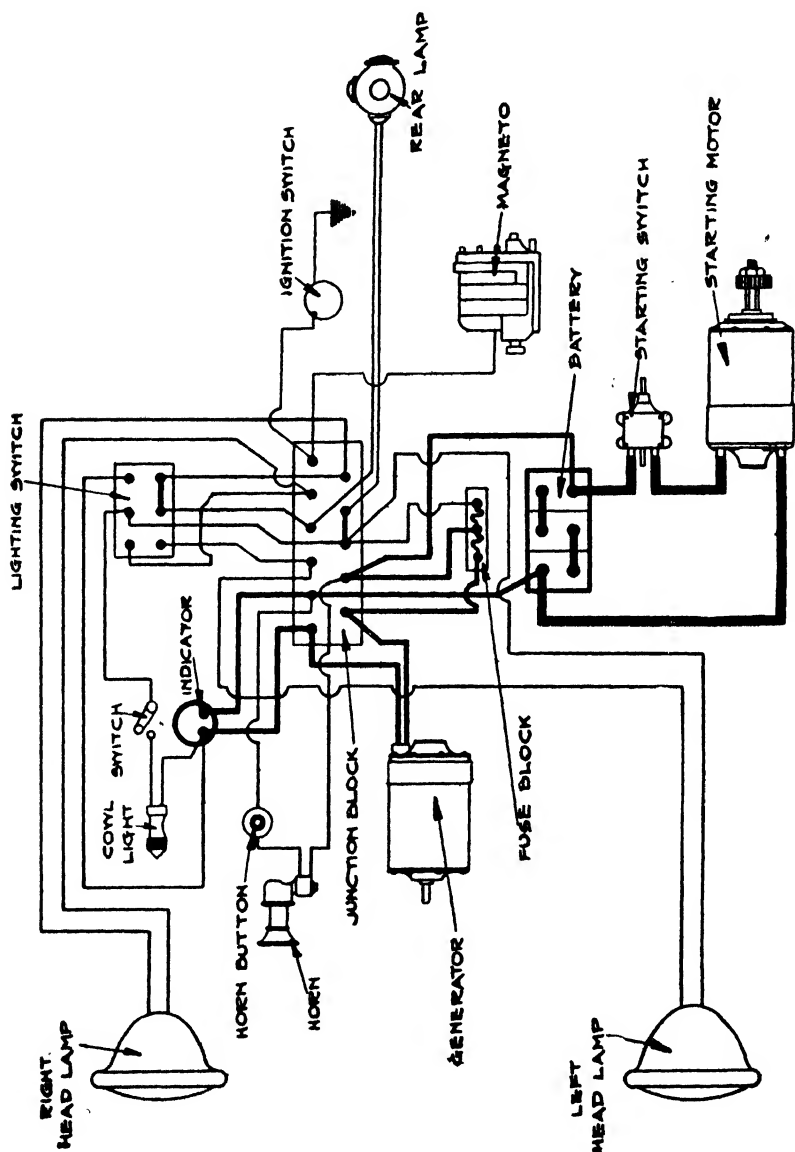

Fig. 231. Wiring Diagram for the Bijur System on the Apperson Car
*Apperson.* The 6-volt two-wire system is shown in Fig. 231. The generator is of the third-brush regulation type. A "charge indicator" is fitted instead of an ammeter, having three readings—*charge*, *floating*, and *discharge*. *Floating* is the neutral position and the indicator should show this when the engine is stopped and no lights are on, and may show either *charge* or *floating* at car speeds in excess of 12 miles per hour with lights on, according to the condition of the battery. Generator fields are protected by a 12-ampere fuse.
*Apperson.* The generator on the Apperson system has a fuse protecting the field circuit, Fig. 231. Open connections between the generator and the battery will blow this fuse. It is located on the end of the generator adjacent to the terminals and is protected by an aluminum housing. To examine, remove the latter by taking out its two holding screws. The fuse is of the standard glass-tube type and may be lifted out of its clips with the thumb and finger. Do not attempt to pry a fuse out of its clips with a screwdriver